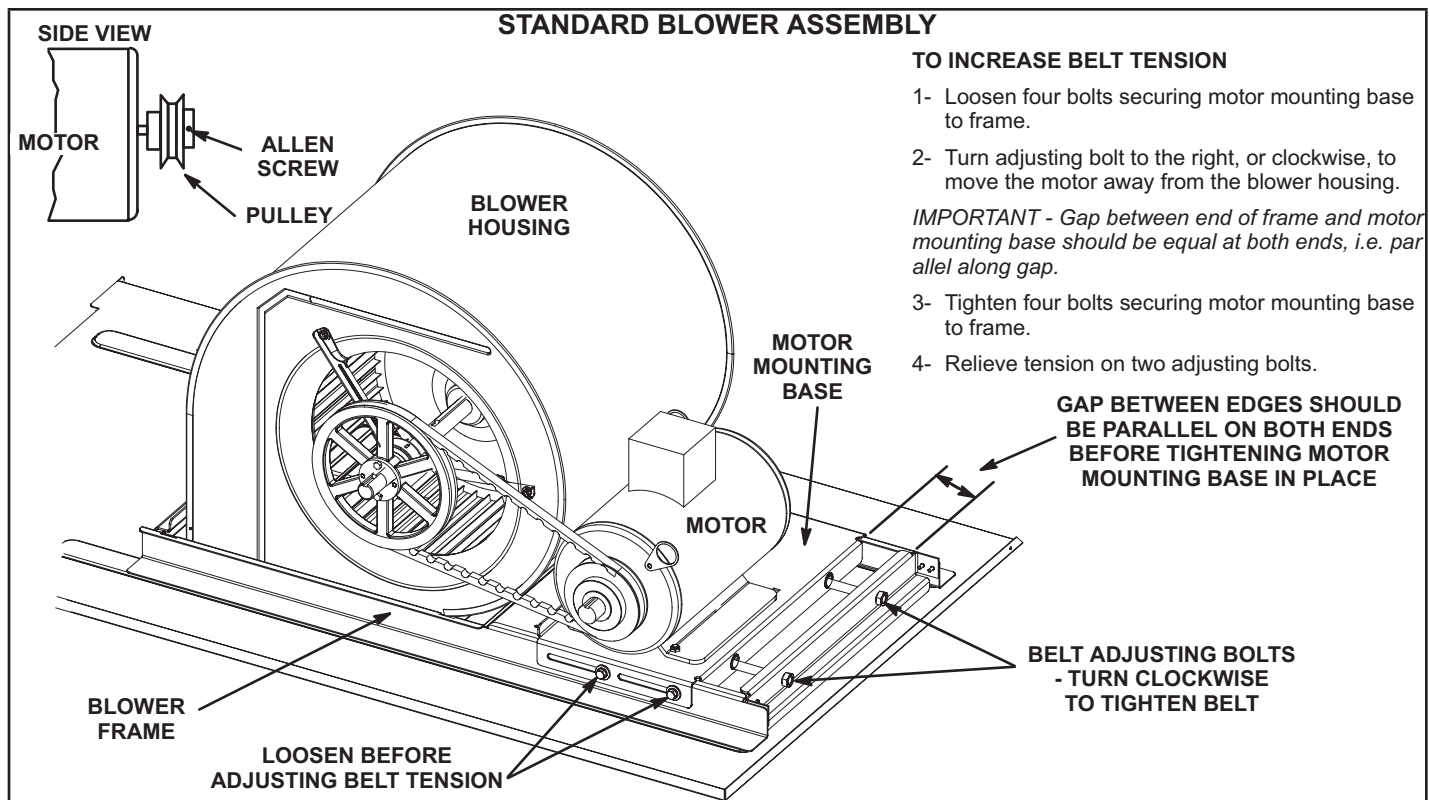

FIGURE 11
- 6 - The blower RPM can be adjusted at the motor pulley. Loosen Allen screw and turn adjustable pulley clockwise to increase CFM. Turn counterclockwise to decrease CFM. See FIGURE 11. Do not exceed minimum and maximum number of pulley turns as shown in TABLE 3.
- 1 - Loosen four bolts securing motor base to mounting frame. See FIGURE 11.